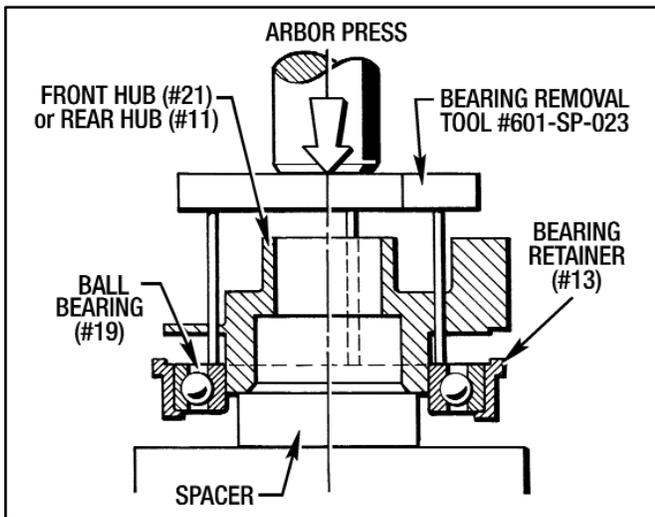

Figure 6.9 - Removing Ball Bearings (#19) and Bearing Retainer (#13) from Hub
2. Use the Bearing Removal Tool #601-SP-023 as shown in Figure 6.9 to take the Ball Bearing (#19) and the Bearing Retainer (#13) off the Hub. Insert the (3) protruding pins on the tool into the (3) holes in each hub.